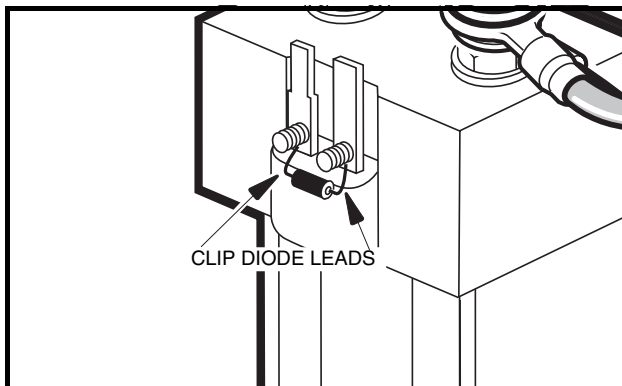
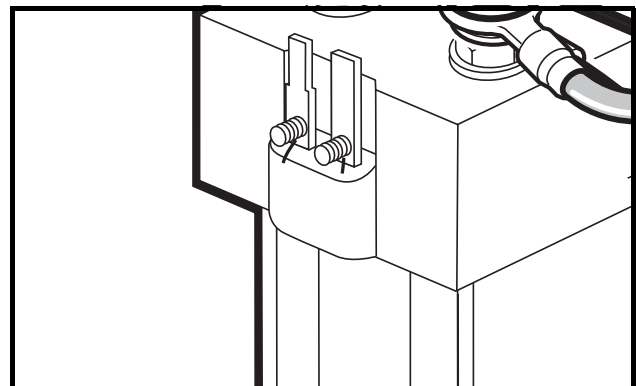

Figure 11-10 Diode Removal
Figure 11-11 Solenoid with Diode Removed
- To remove the diode, carefully clip the two leads where they attach to the solenoid terminals (Figure 11-10, Page 11-20 and Figure 11-11, Page 11-20). See following NOTE.